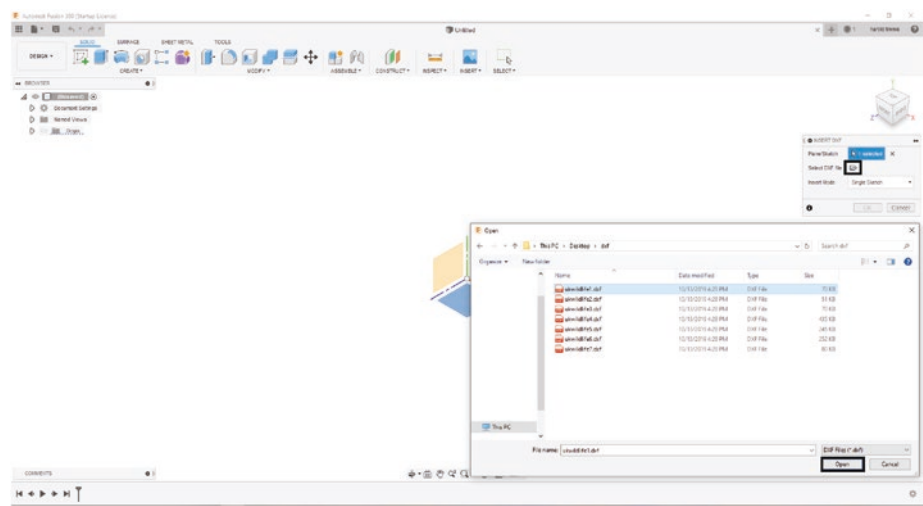

Figure 3-29. Select the DXF file from your computer
5. Select the DXF file. See Figure 3-29.